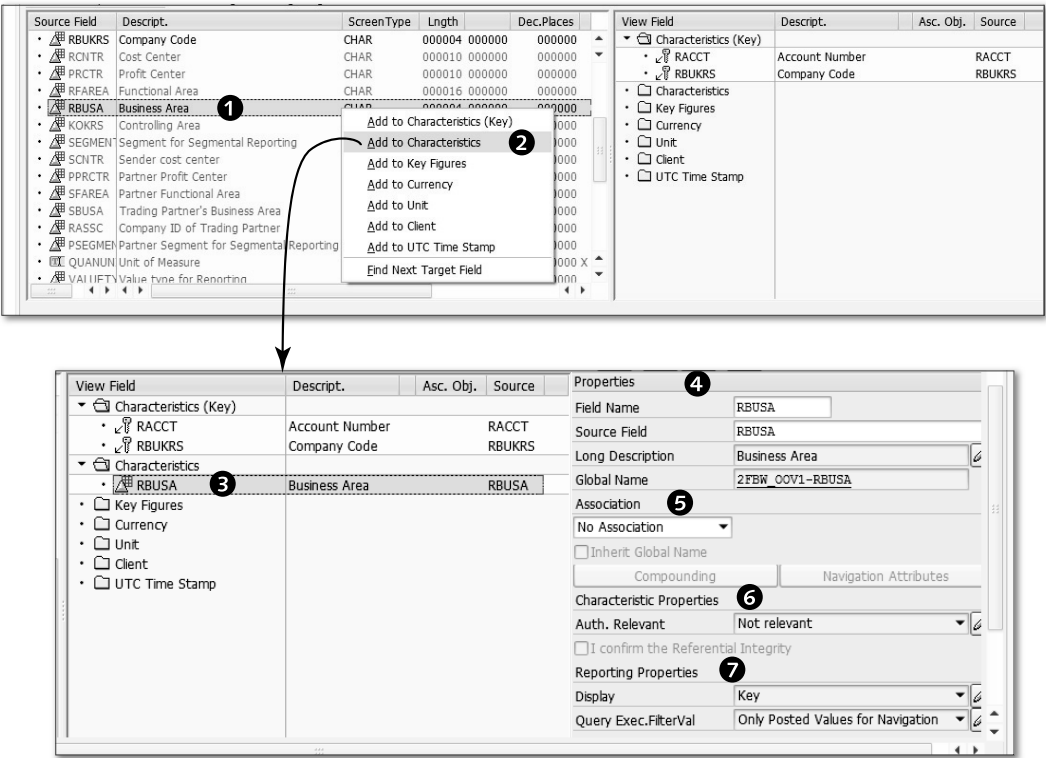

Figure 6.82 Adding to the Characteristics Section
Now let's discuss how to add a field under the CHARACTERISTICS section of VIEW FIELD. Select the RBUSA (BUSINESS AREA) field (❶), and from the context menu, select ADD TO CHARACTERISTICS option (❷), as shown in Figure 6.82.
This action places the RBUSA field under the VIEW FIELD section as shown in (❸) of Figure 6.82. For each field under VIEW FIELD, you can set a number of properties. Open the PROPERTIES section (❹) using any of the methods explained earlier. You can set ASSOCIATION (❺), CHARACTERISTIC PROPERTIES (❻), and REPORTING PROPERTIES (❼) for each field. Each InfoObject created in SAP BW also has associated technical and semantic properties. You can take advantage of the associated properties of an InfoObject by associating fields of an OOV with the InfoObject. By associating the InfoObject with the fields, you can include InfoObject navigational fields and use the reporting properties in the design of the OOV.